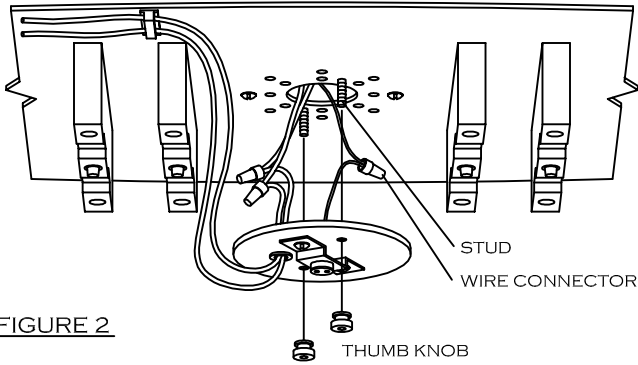

FIGURE 2
5. MAKE WIRE CONNECTIONS USING TWIST-ON WIRE CONNECTORS: CONNECT BLACK FIXTURE WIRE TO BLACK SUPPLY WIRE; WHITE FIXTURE WIRE TO WHITE SUPPLY WIRE; FIXTURE GROUND WIRE TO BOX GROUND WIRE OR TERMINAL. PUSH ALL CONNECTIONS INSIDE OUTLET BOX. (FIG. 2)
6. ALIGN OUTLET BOX COVER DISK OVER STUDS. SECURE WITH THUMB KNOBS. (FIGS. 2 & 3)